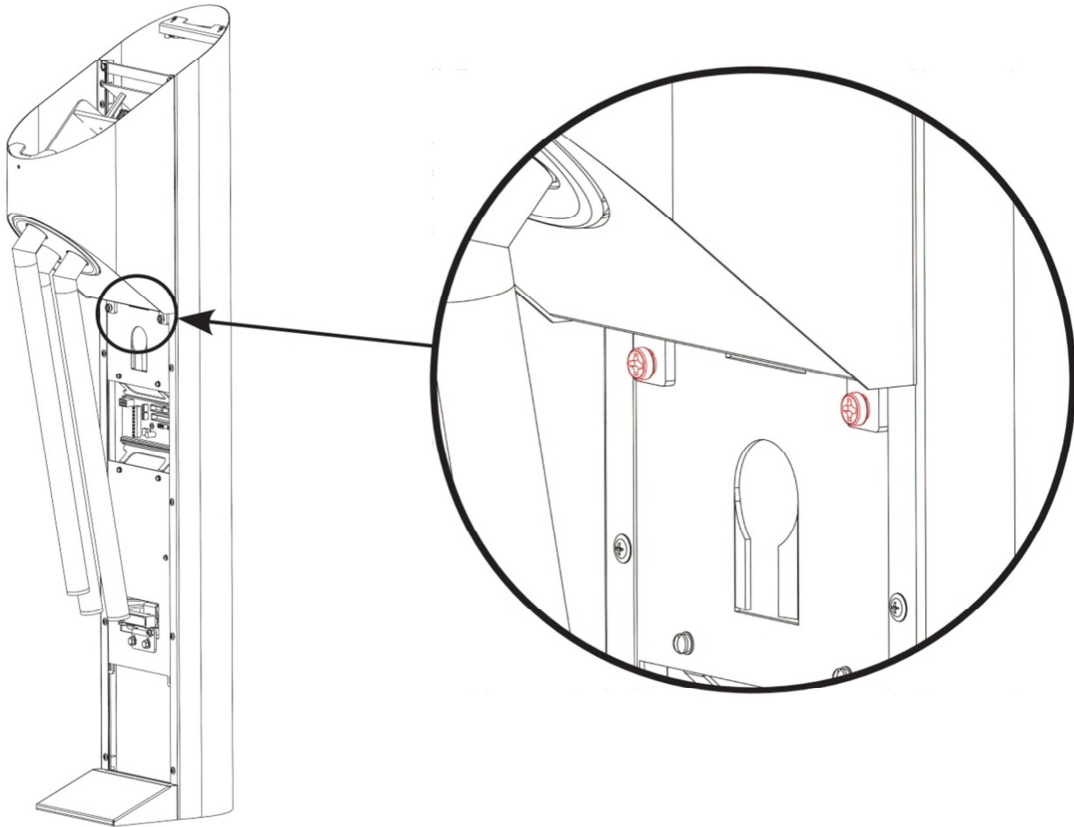

Fig. 7 Central stand of turnstile
- Remove two M6 DIN7985 screws (Fig. 7);